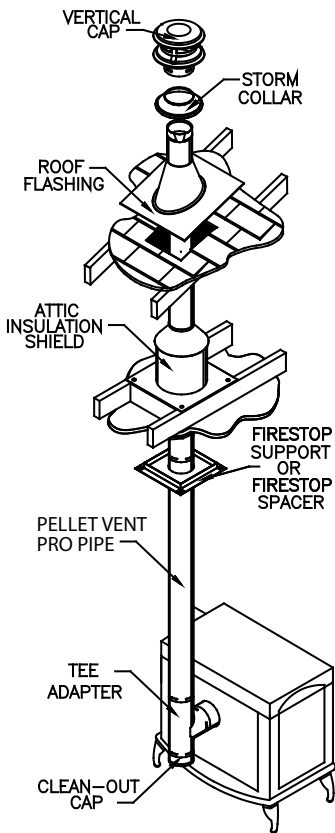

Figure 10
- 3.** If the flue exits on back of stove and an interior installation is desired (**Figure 10**):